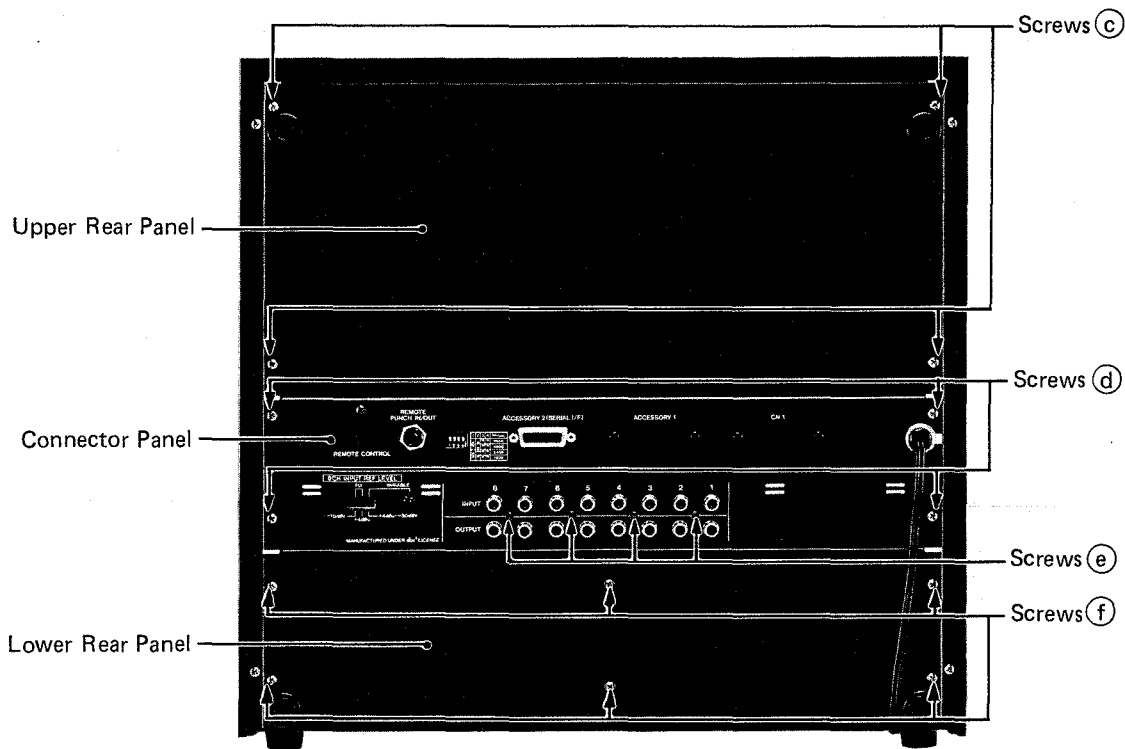

FIG. 8. REAR VIEW
To remove the upper rear panel remove the four "c" screws shown in Fig. 8.
Remove the four "d" and four "e" screws shown in Fig. 8 and pull the connector panel toward you.
2. Remove the six "f" screws shown in Fig. 8.